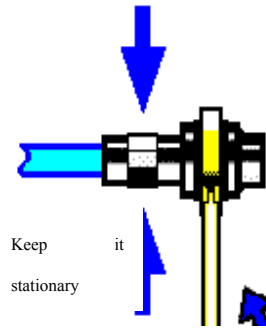

Fig. 2.6 Final Connection with Torque Wrench
Step 3. As shown in Fig. 2.6, complete the final connection by tightening with the torque wrench. Note that the torque wrench must not be beyond the initial break point. Use the auxiliary wrench to prevent the connectors from rotation.